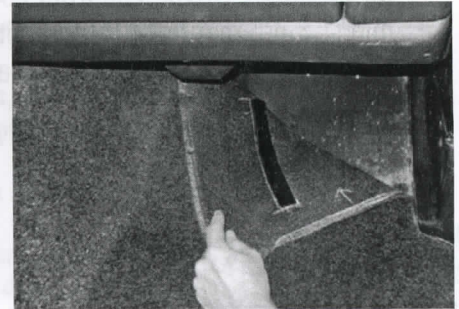

FIGURE 4:
8. Once properly aligned, pull back part to access the three pieces of hook fastener (Fig. 4). Clean surface with alcohol then remove the film backing and roll the part back into place. Firmly press the top surface to ensure adhesive attachment. Repeat for other front floor piece.